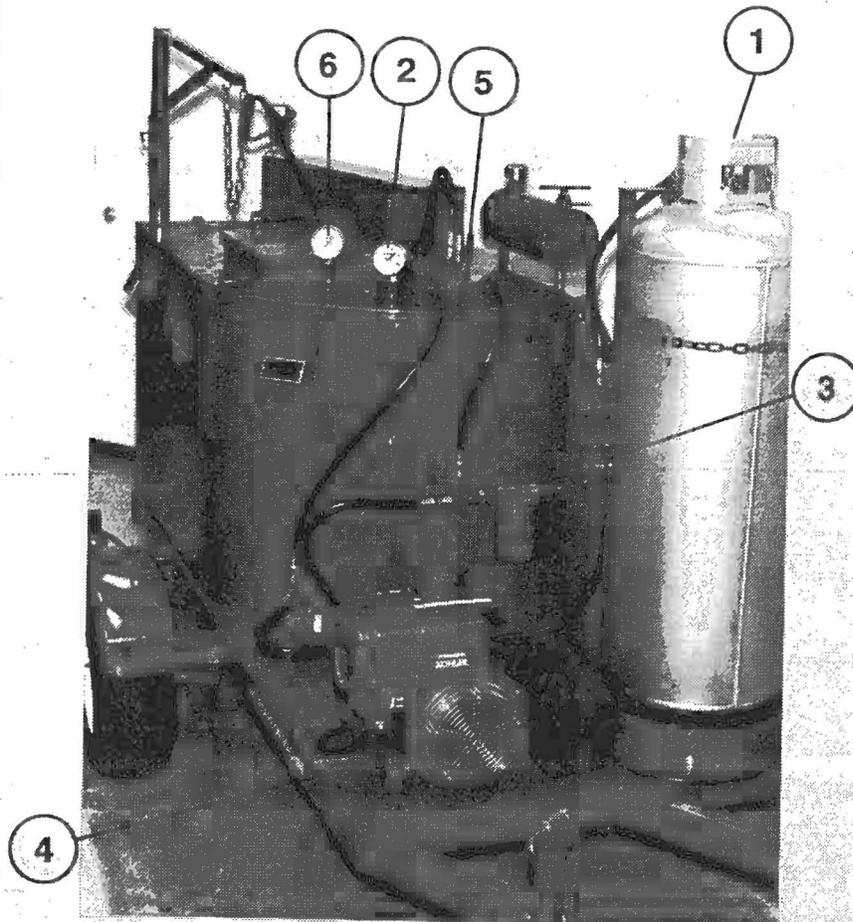
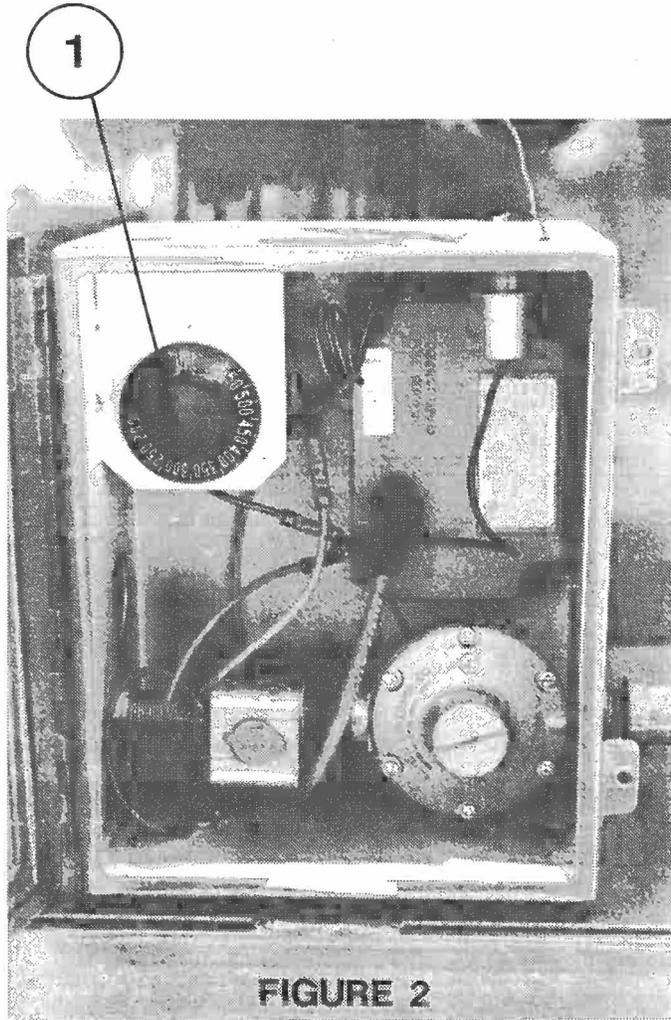

FIGURE 1
FIGURE 2
5. Start engine. To start Engine, press choke primer button for approximately 2 seconds Fig. 1 (3). Turn ignition key and engine should start.
The temperature control system is calibrated at the factory during testing; however, it is a good practice to check calibration when machine is first put into operation. Also check calibration periodically (each 50 hours of operation is recommended). The gauge fig. 1(2), registers the actual temperature of the heat transfer fluid and should coincide with the temperature control dial Fig. 2(1).